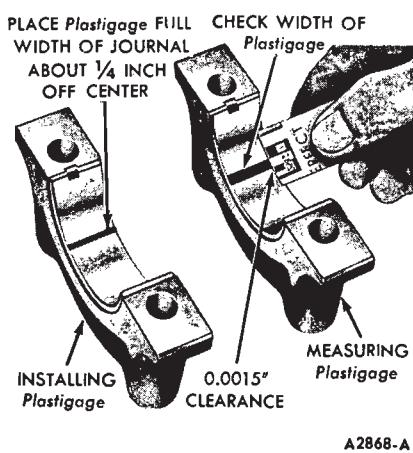

FIG. 25—Installing and Measuring Plastigage—Engine Installed
**3. Place a piece of Plastigage on bearing surface across full width of bearing cap and about 1/4 inch off center (Fig. 25).**